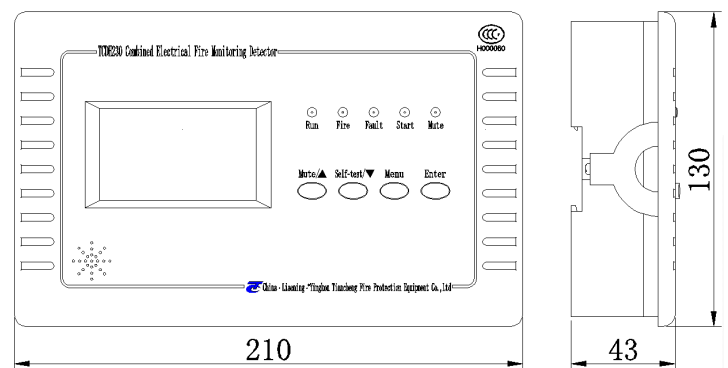

Fig. 1 Diagrammatic
4.1 Refers to Fig.1 for the appearance of detector